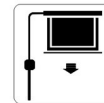

Figure 22
2. Turn the switch to position "=" to lower the screen; it will come down slowly. When it is all the way down, it will stop automatically (Figure 22).